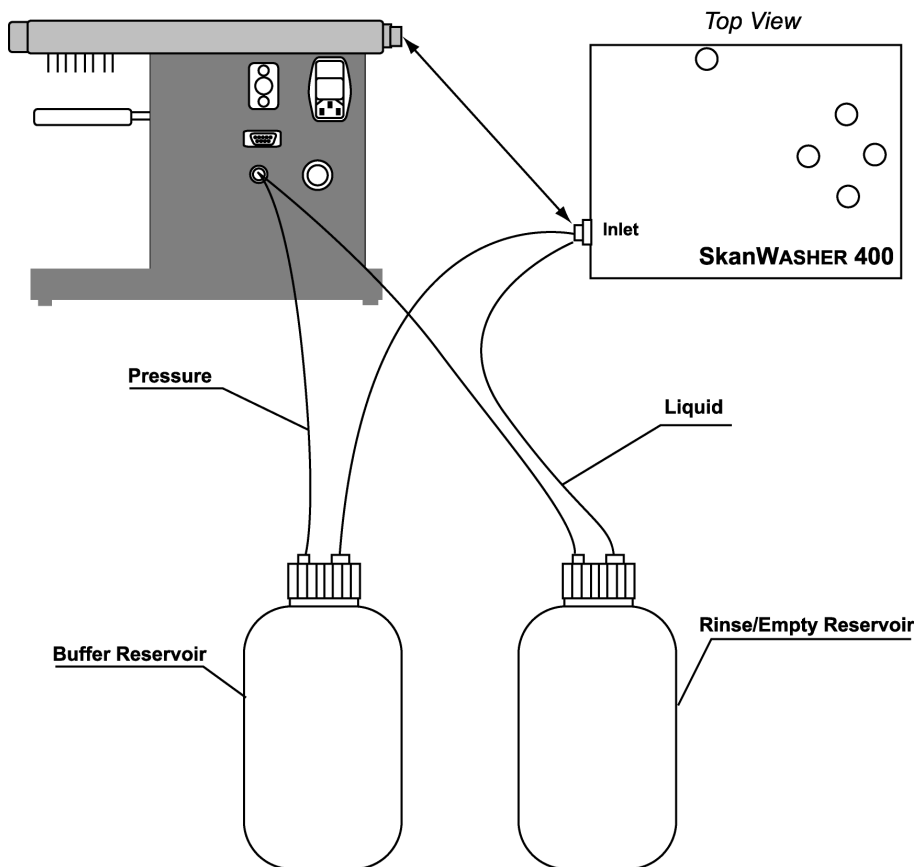

Figure 2: Wash and rinse liquid reservoirs
Step 5 Connect the Wash and Rinse Liquids (refer to Figure 2).